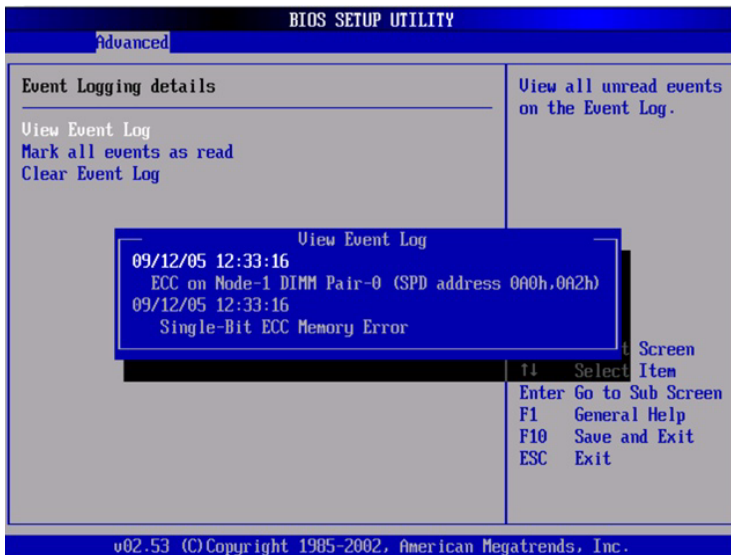

FIGURE E-2 Sample DMI Log Screen, Correctable Error
- FIGURE E-2 shows an example of a DMI log screen from BIOS Setup Page: